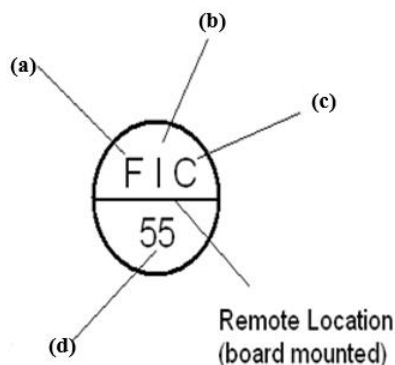

Figure A4a / Rajah A4a
- a) Name item a, b, c and d in the instrument identification letters and numbers in Figure A4a below.